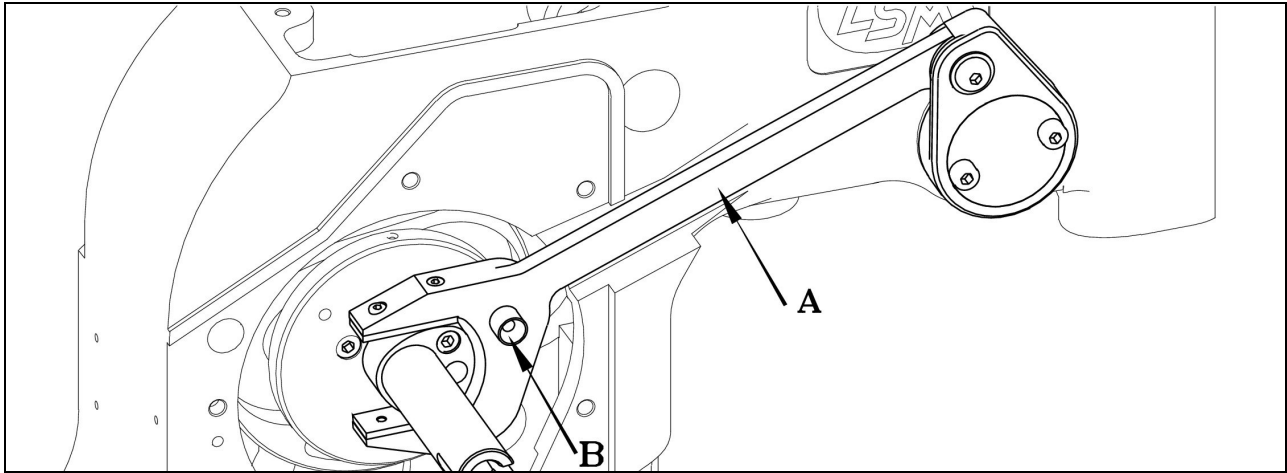

Fig 1
11. Install the stitch bite lever (A) in Fig 1. The adjustment will be made later. Do not tighten screws.